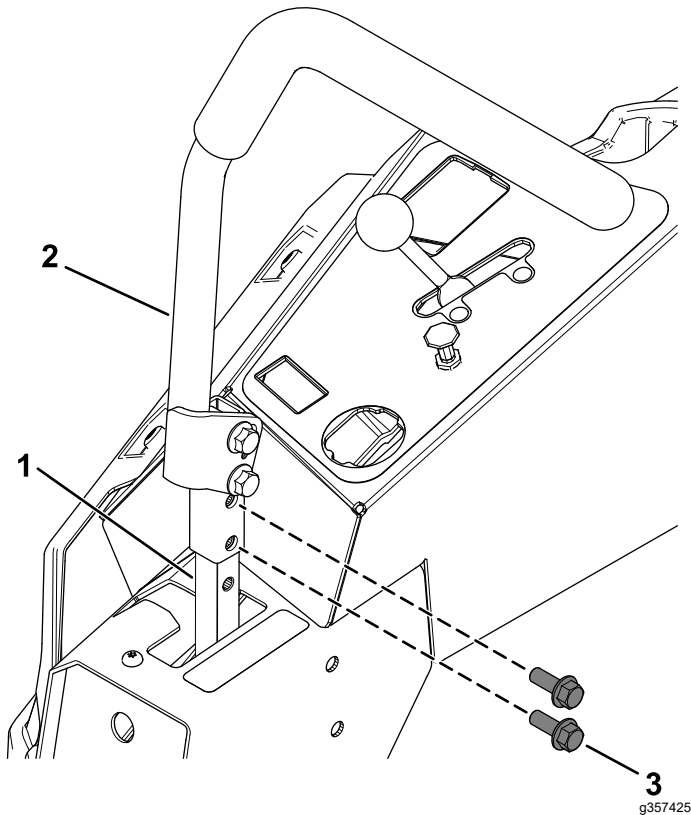

Figure 3
3. Secure the assembled motion-control lever to the control-arm shaft using the previously removed 2 flange-head bolts (3/8 x 1 inch) as shown in Figure 3.